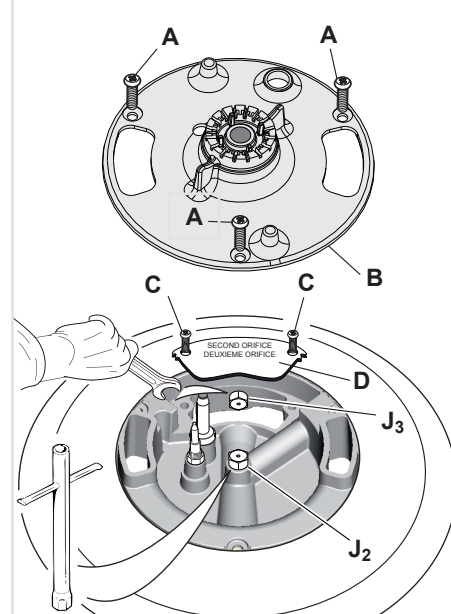

Fig. 2.9
(\*) inner crown ("J2" in figure 2.9)
(\*\*) outer crown ("J3" in figure 2.9)
- Dual burner only (fig. 2.9): Unscrew the no.3 fixing screws "A" and remove the inner crown flame spreader "B"; then unscrew the no.2 fixing screws "C" and remove the cover plate "D".
- Dual burner only (fig. 2.9): Refit the cover plate "D" and screw the no.2 fixing screws "C"; then refit the inner crown flame spreader "B" and screw the no.3 fixing screws "A".